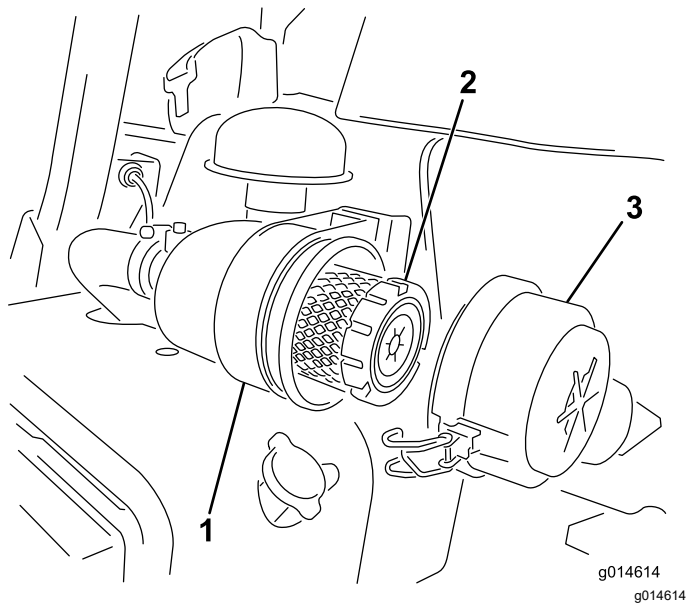

Figure 31
1. Release the latches securing the air-cleaner cover to the air-cleaner body (Figure 31).
7. Secure the latches (Figure 31).